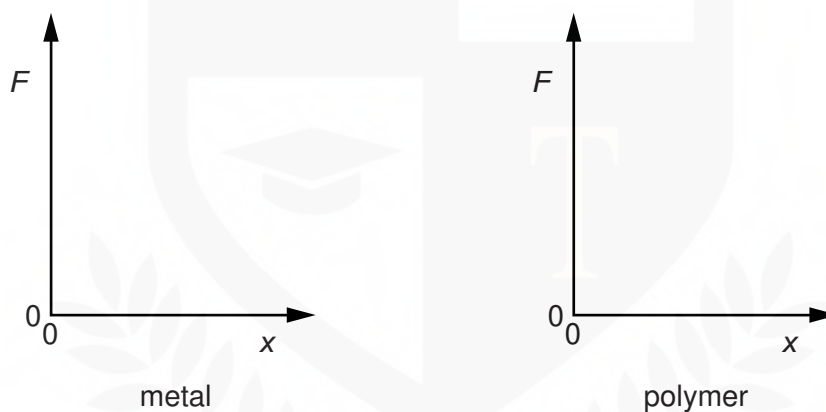

Fig. 3.1
- (b) On Fig. 3.1, sketch the variation with extension x of force F to distinguish between a metal and a polymer.